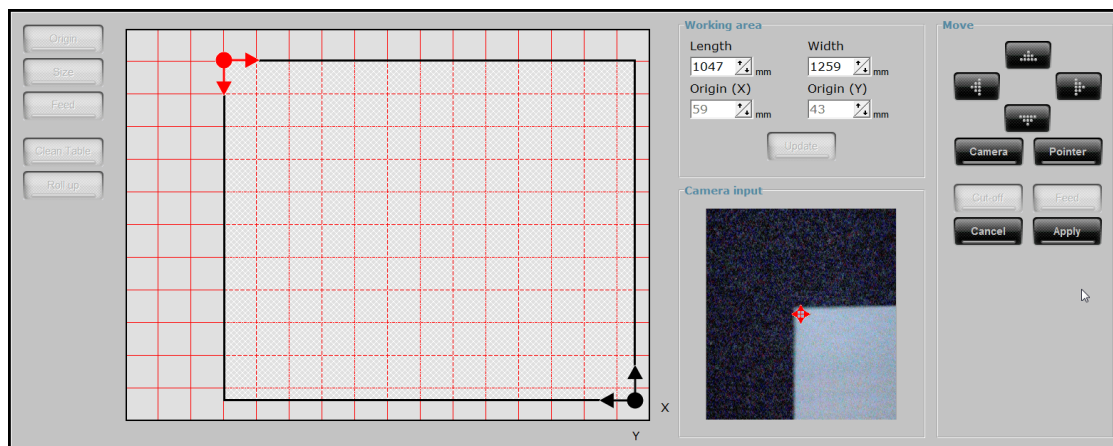

FIG 1-14
6. Insert a media core holder in each end of the media roll. Loosen the core holders with the black knob on the side. Figure 1-14 shows a loosened ① core holder and an expanded ② core holder.